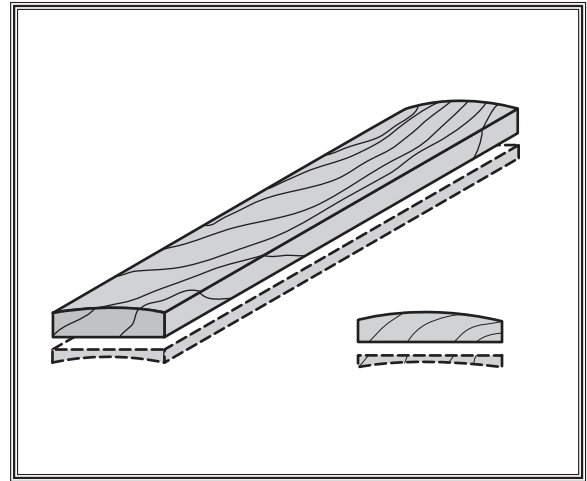

Figure 9. Cupped board corrected.
- Carefully inspect any lumber that you plan to run through the drum sander. Each board must have at least one flat surface to slide along the conveyor table. To create a flat surface, pass the stock over a jointer first (see **Figure 9**). Some defects such as moderate twisting, loose knots or severe cracks may make the stock unsandable with the drum sander.